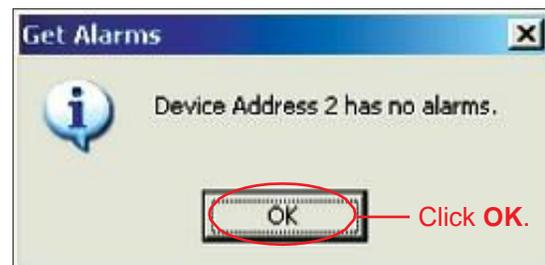

Figure 10-3. Alarm Status Query Results.
AISG compliant devices report alarms to the program in two ways, one of which is spontaneous and the other of which must be requested by the user. An AISG compliant device, such as an ATM200, spontaneously reports alarms in the **Get Alarms** pop-up notification (Figure 10-3) as they occur. Since they are reported spontaneously by the individual RET devices, no action is required by the user to retrieve these alarms. If desired, you may check to see if any previously reported alarms are still active.
Figure 10-3 shows an example where the device reported that no alarms are present.
3. Click **OK** to dismiss the **Get Alarms** pop-up notification (Figure 10-3).